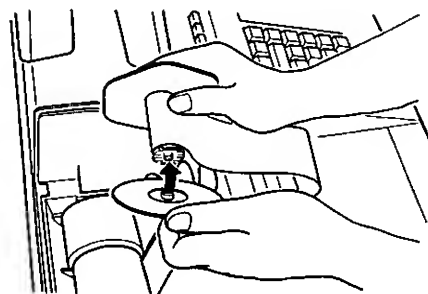

Fig. 10
6. When a sufficient amount of paper comes out, wind the paper around the Journal Winding Reel two or three times, and set the Journal Winding Reel into the Reel Holder. (Fig. 10)